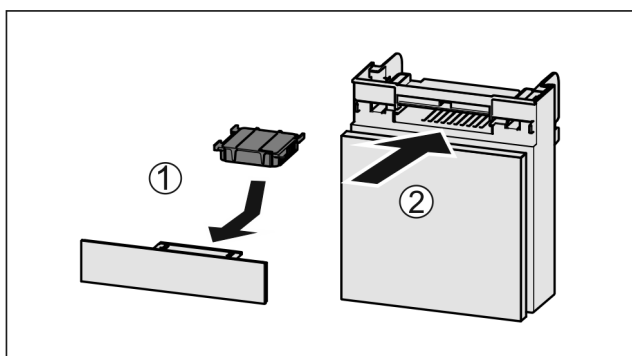

Fig. 135
- Insert the carbon filter as shown in the diagram Fig. 135 (1).
- Push the compartment in Fig. 135 (2).